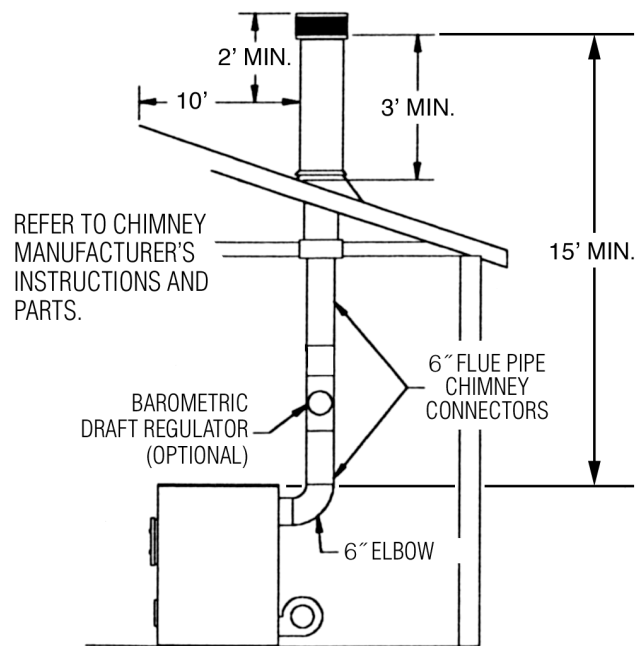

Fig. 13 - Chimney Construction Through Roof
Carefully follow chimney manufacturer’s instructions. Use only a listed chimney. If your chimney starts at the ceiling (figures 13 & 14) you will need enough 6” round black connector pipe to reach the ceiling. The top of the chimney must be at least three (3) feet above the roof and be at least two (2) feet higher than any point of the roof within ten (10) feet (figure 13). Use only 6” diameter listed chimney UL 103 HT. Chimney made to this listing is High Temperature rated to 2100 degrees Fahrenheit. Use chimney from only one manufacturer. Never mix brands. Carefully follow the chimney manufacturer’s stated requirements and clearances. Use the chimney manufacturer’s attic guards, roof supports, flashing and fire stops when passing through a ceiling. Use a listed thimble when passing through a combustible wall. Do not use makeshift compromises during installation. **NEVER USE A SINGLE-WALL CONNECTION PIPE AS A CHIMNEY!**